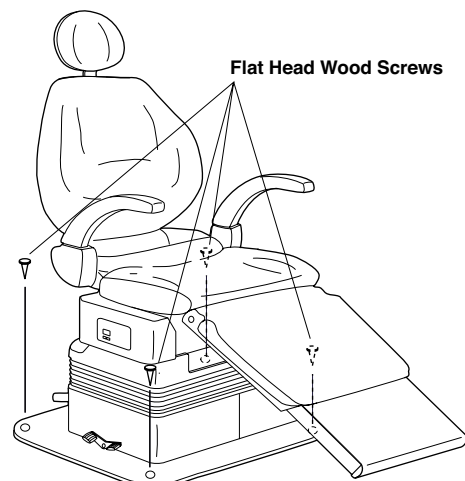

Fig. 4-1 Fixing chair on the floor
- 2) Turn on the Main Switch located on left side of Pump Cover. (See Fig. 4-1.)